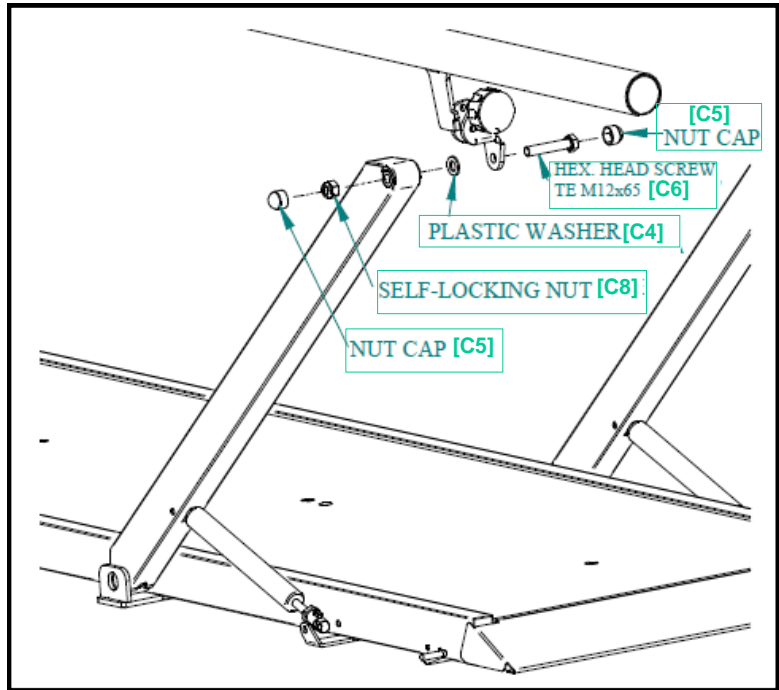

Fig. 3
- 8 Install the handrails with the hardware provided: tighten the self-locking nut thus allowing smooth height adjustment (Fig.3).